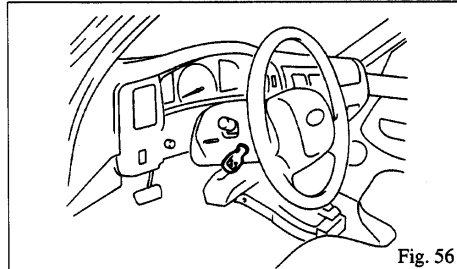

Fig. 56
(35) Install the steering column cover and make sure that the control switch is positioned as shown when viewed by the driver. (Fig. 56, 57)
- ➔ Connect the ① (Female, White, 3Pin) connector to the ② (Male, White, 3Pin) connector.